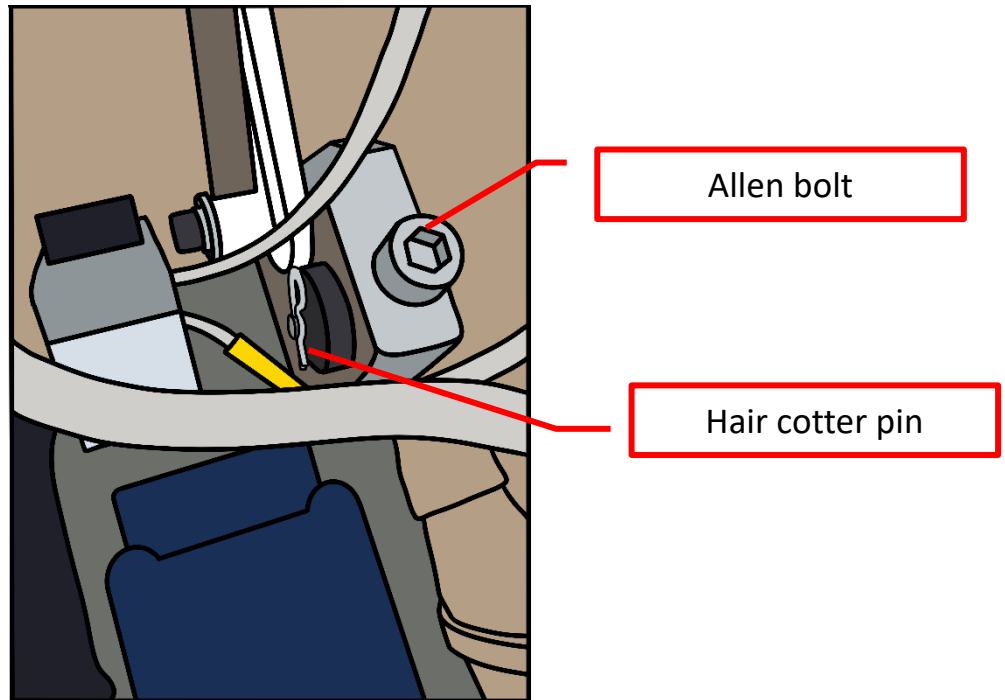

Figure 14. Arm Disconnection
2. Remove hair cotter pin from arm connector and pull amputation away from manikin (**Figure 14**). Remove arm amputation from manikin.